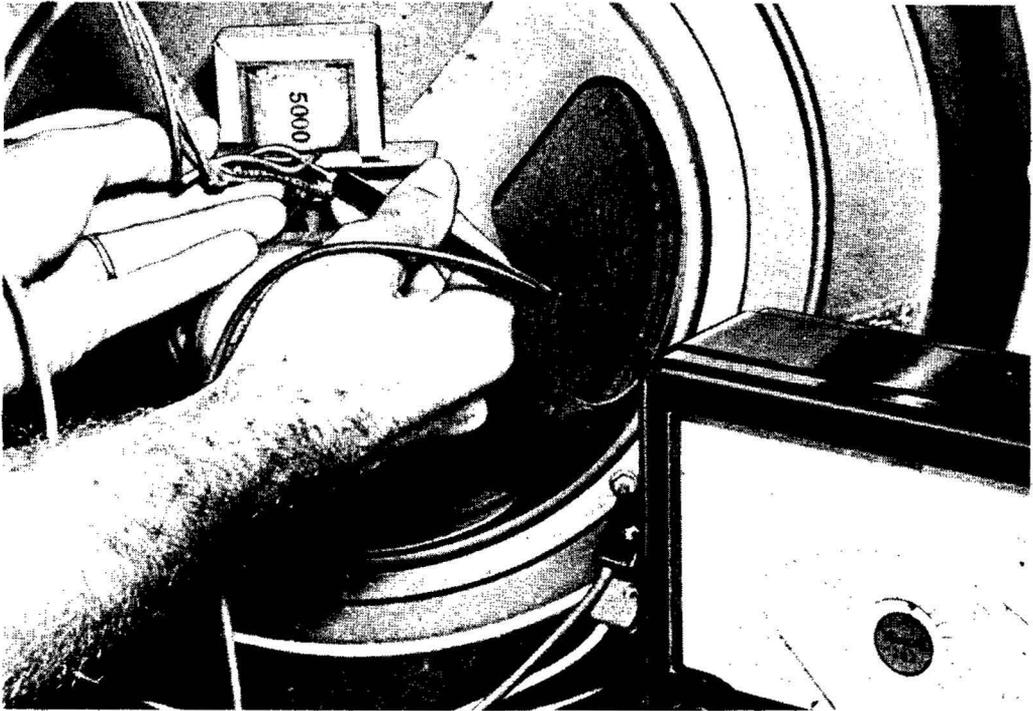

Fig. 3-2. Checking the primary winding of an audio output transformer.
To check the latter possibility, pull the output tube from the socket and see if this causes a click in the speaker. If no click is heard, you can be confident that that particular tube is not drawing proper plate current. The only two causes that could be corrected without pulling the chassis would be: (1) a defective tube — and you can check this with your tube tester — or (2) an open primary of an output transformer mounted on the speaker. The receiver should be turned off and the insulation-piercing probes of the ohmmeter used to check the transformer primary for proper resistance by measuring across the leads going into that primary. An illustration of this test is shown in Fig. 3-2. If the winding is found to be open, only the speaker needs to be removed from the cabinet to install a new transformer.